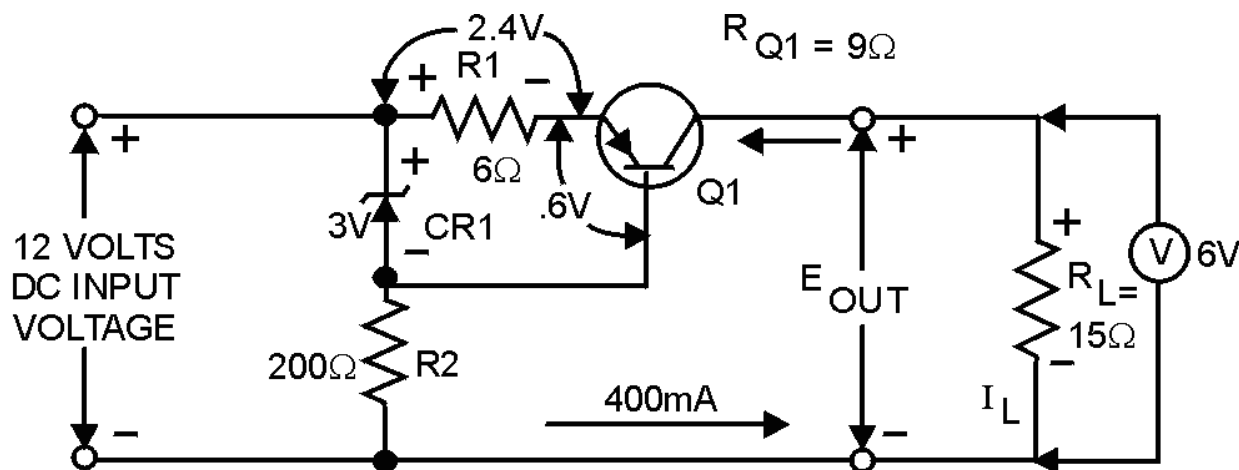

Figure 4-42.—Current regulator (with circuit values).
The purpose of a current regulator is to provide a constant current regardless of changes in the input voltage or load current. The schematic shown in figure 4-42 is that of a circuit designed to provide a constant current of 400 milliamperes. Voltmeters are shown in the schematic to emphasize the voltage drops across specific components. These voltages will help you understand how the current regulator operates. The voltage drop across the base-emitter junction of Q1 is 0.6 volt. This voltage is the difference between the Zener voltage and the voltage drop across R1. The 0.6-volt forward bias of Q1 permits proper operation of the transistor. The output voltage across RL is 6 volts as shown by the voltmeter. With a regulated current output of 400 milliamperes, the transistor resistance (R_{Q1}) is 9 ohms. This can be proved by using Ohm's law and the values shown on the schematic. In this case, current (I) is equal to the voltage drop (E) divided by the resistance (R). Therefore: 12 volts divided by 30 ohms equals 0.4 ampere, or 400 milliamperes.